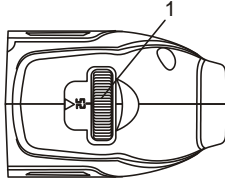

Fig. 14
The speed control wheel (1) is located at the rear of the tool (Fig. 14). Speeds from 5,000 to 35,000 RPM can be set by rotating the speed control wheel to show the desired speed (in thousands RPM).